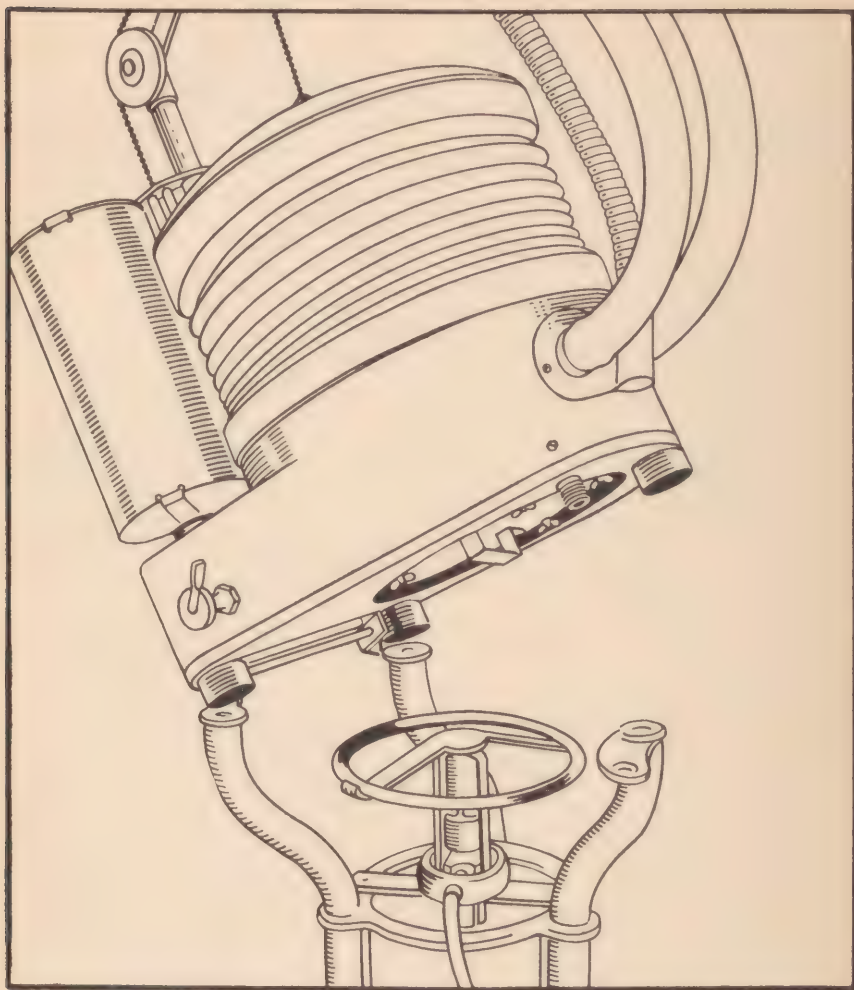

Figure 5. Position for attaching apparatus to stand.
(2) *To mount apparatus.* (a) Grasp the base and tilt the tester until the hooks underneath can be seen (looking from the flexible arm end). (See fig. 5.)